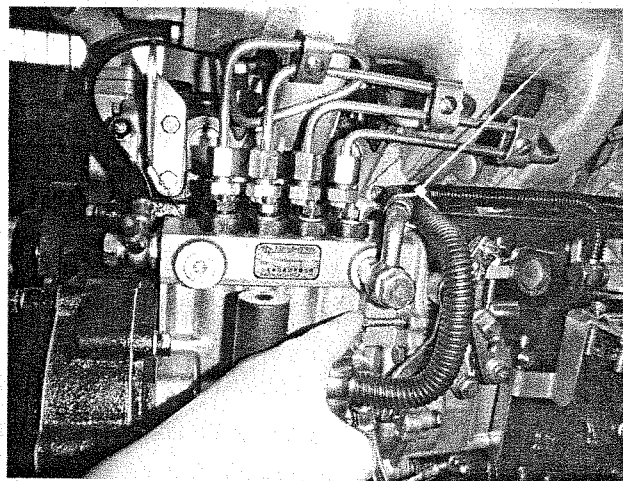

Fig 1-2
(4) Examine whether or not air leak exists, by making use of adjusting rack to adjust the negative pressure of oil injection pump in reference to Fig 1-2.
(5) Adjusting the limit of smoke by making use of adjusting screw for limit of smoke, while the operators shall pay attention that please never adjust it for imported engines, when they are basically under normal operating conditions.